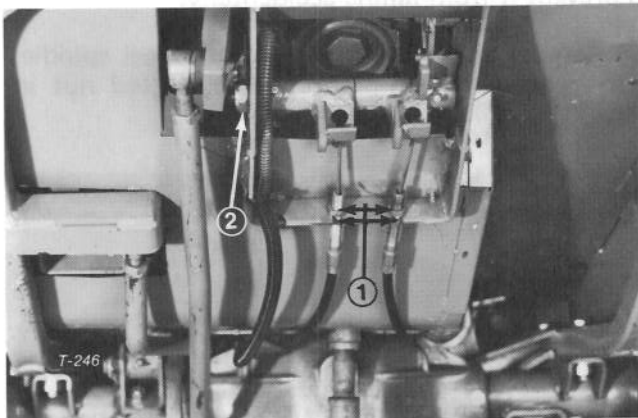

Figure 30
1. Loosen brake cable jam nuts and disengage brake cables from brake pedals (Fig. 30).
2. Remove locknut from brake pivot pin (Fig. 30). Slide pivot pin out to the side so pedal can be removed.